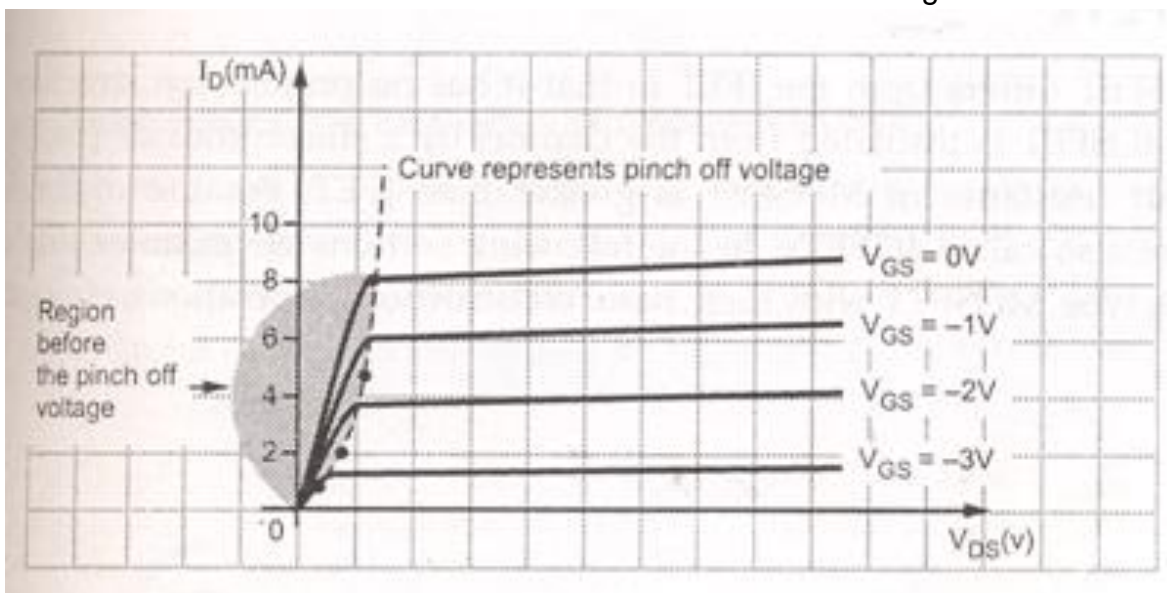

Fig. 4.14 Drain characteristics of FET
- Let us consider the drain characteristics of FET as shown in the Fig. 4.14.